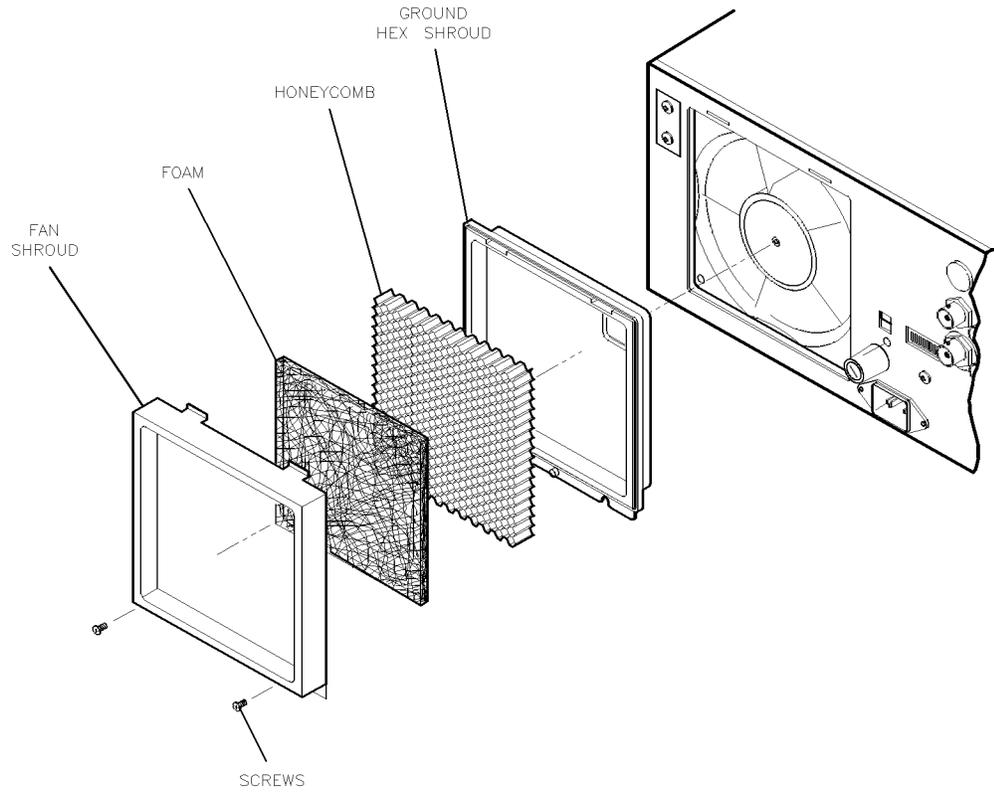

Figure 10-1. Removing the Fan Filter
3. Remove the two screws holding the fan shroud to the rear panel. (See Figure 10-1.)